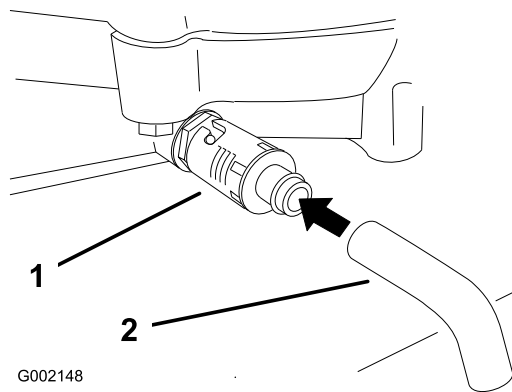

Figure 41
5. Place a pan below the drain. Rotate oil drain valve to allow oil to drain (Figure 41).